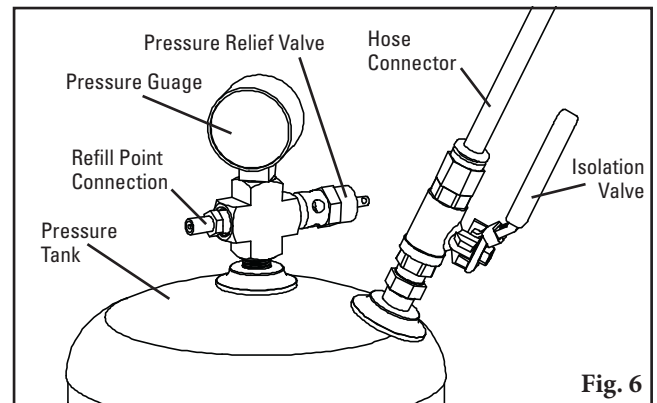

Fig. 6
8. **Install the pole.** Remove the two bearing mount bolts from one of the bearing mounts (Fig. 6). (If chute mount, remove from the side with access hole.) Slide the pole across the pulley and into the bearing mount on other side and allow tips to hang down. Install the removed bearing mount on the pole and reattach to the mounting bracket. Do not tighten; leave finger tight.
6. **Install the pole.** Remove the two bearing mount bolts from one of the bearing mounts (Fig. 6). (If chute mount, remove from the side with access hole.) Slide the pole across the pulley and into the bearing mount on other side and allow tips to hang down. Install the removed bearing mount on the pole and reattach to the mounting bracket.